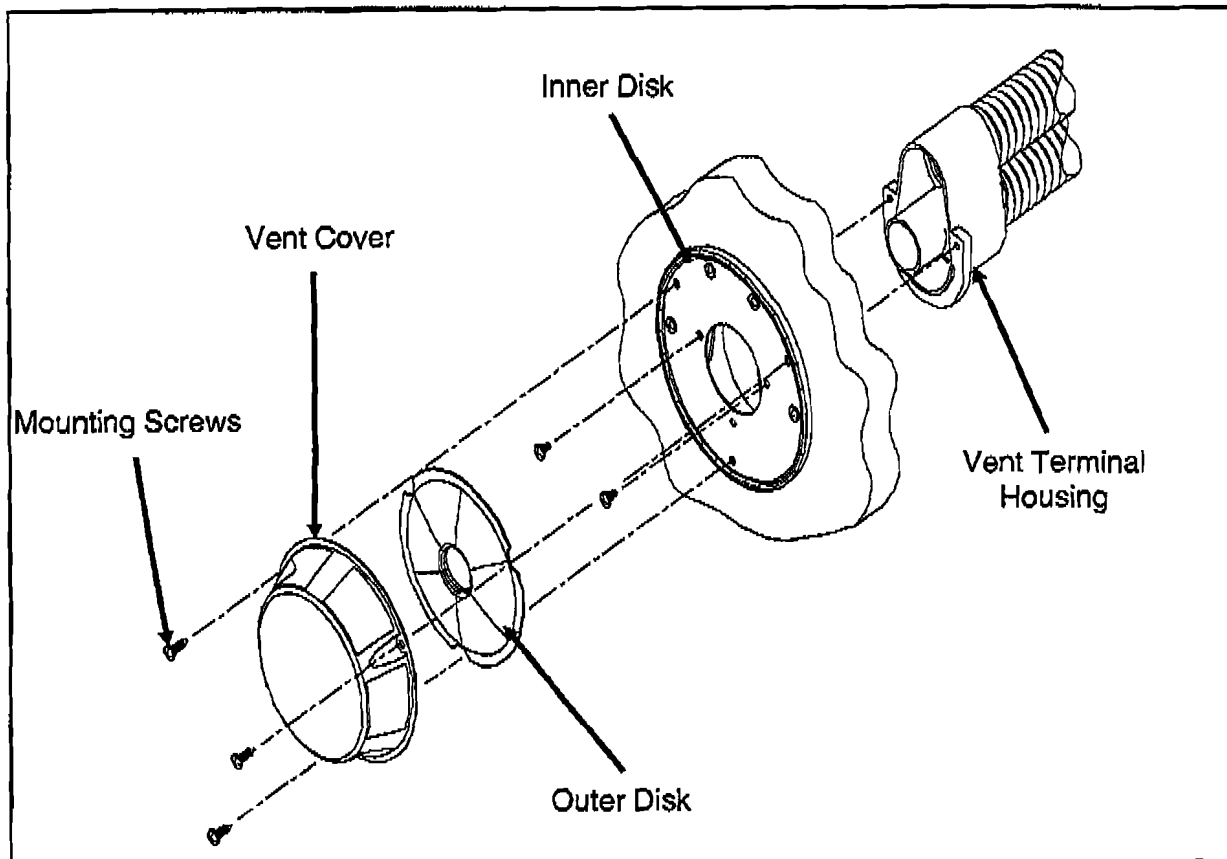

Figure 2 - Vent Terminal Housing
See Figure 2.
13. Remove the two (2) screws securing the inner disk to the vent terminal housing. See Figure 2.